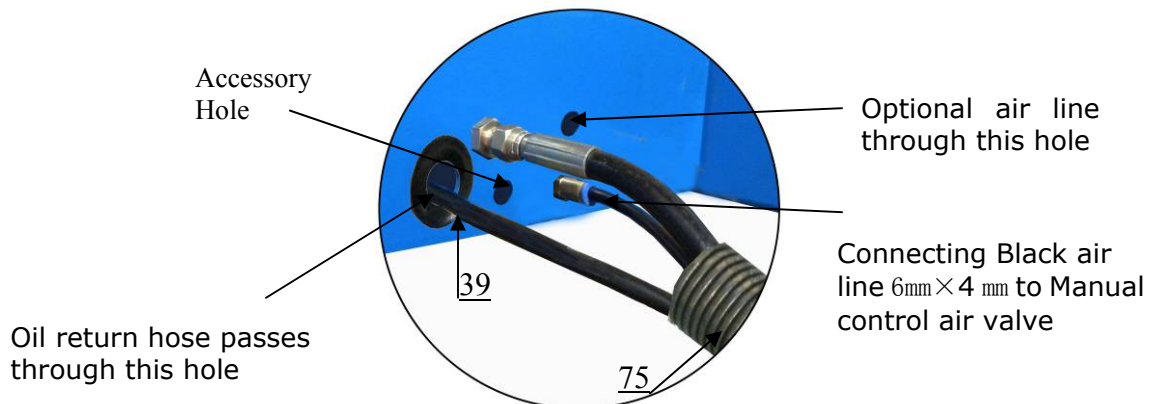

Fig. 27
3. Connect the oil hoses and air lines (See Fig. 27).